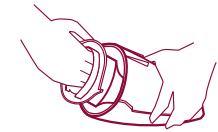

Fig. 12
- Remove the filter holder. (fig.12)